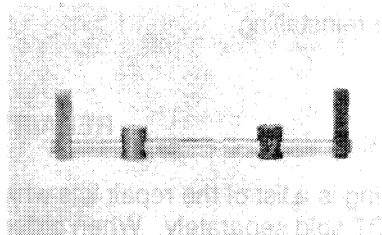

Fig. 5
8. Push both ends of the adjusting screw toward the center of the flanges to remove. **Do not** change the positions of the nuts on the screw. See Fig. 5. Remove the plastic shims from the inside faces of rectangular nuts & save for reassembly.